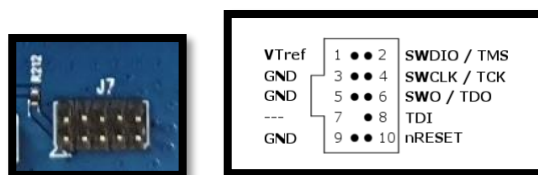

Figure 2: JTAG Pin Connection
5. **JTAG PIN:** allows connecting to I-jet (a JTAG debugger from IAR). See Figure 2.